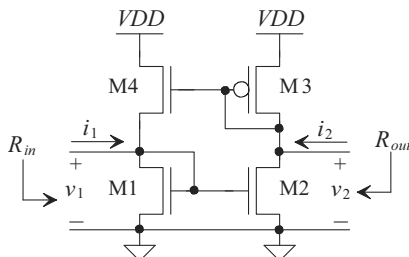

Figure 31.60 A shunt-shunt feedback amplifier, see problem 31.18.
- 31.18** Using the principles of feedback analysis, find the value of the voltage gain, $\frac{v_2}{v_1}$, $\frac{v_1}{i_1}$, and $\frac{v_2}{i_2}$ for the shunt-shunt circuit shown in Fig. 31.60.